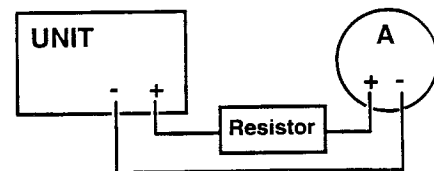

fig. 2
- 1 Connect a resistor and ammeter to the unit in **series** (see fig. 2)